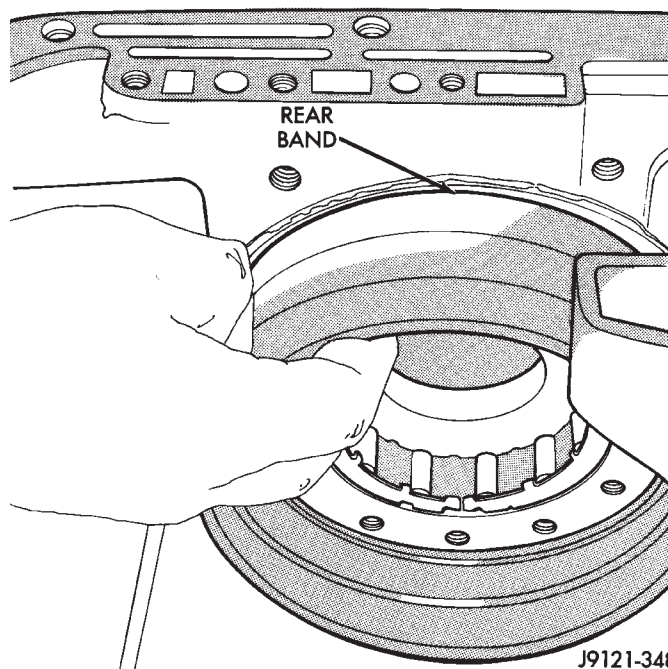

Fig. 146 Rear Band Installation
(11) Install rear band in case (Fig. 146). Be sure twin lugs on band are seated against reaction pin.
(12) Install low-reverse drum and check overrunning clutch operation as follows: